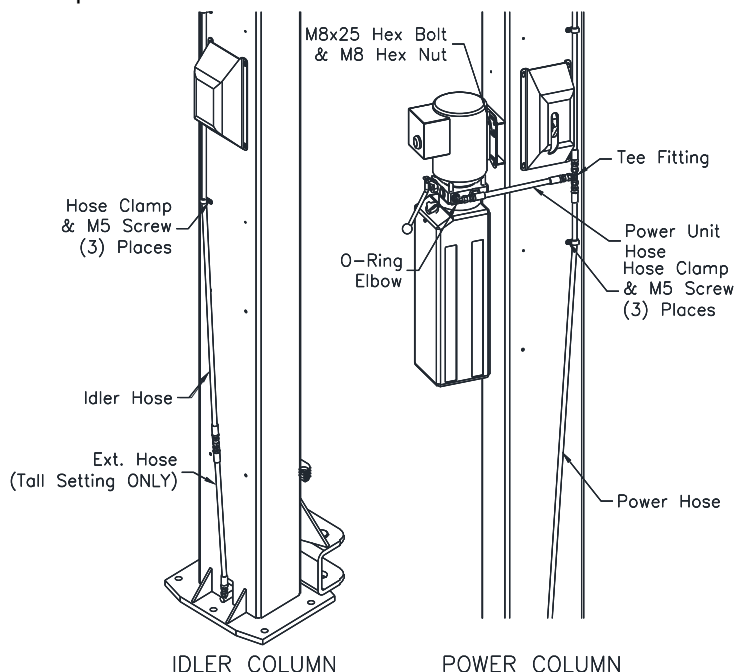

Fig. 7 – Hose Routing
- 21) Mount Power Unit to power column as shown in **Fig. 7** using (4) M8 hex bolts and nuts.
- 26) Route the power hose from the cylinder elbow fitting to the union tee provided. Connect idler hose and power unit hose to union tee as shown in **Fig 7**
- 27) Use hose clamps and M8 Screws to secure hydraulic hoses as shown in **Figure 7**.